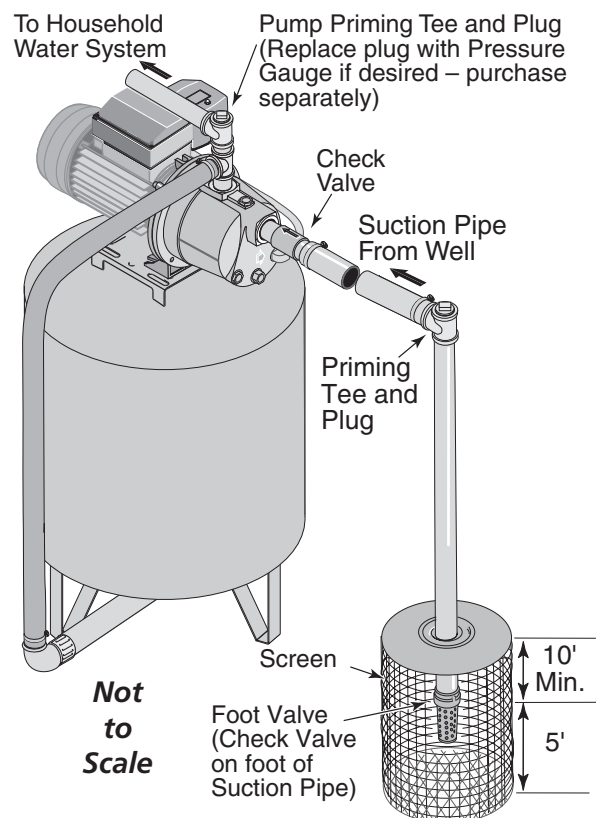

Figure 3 - Surface Water Installation
INSTALLATION FOR SURFACE WATER (FIGURE 3)
2. Assemble a foot valve and suction pipe (see Figure 3). Make sure that the foot valve works freely. Use teflon tape on threaded pipe joints. Protect the foot valve assembly from fish, trash, etc. by installing a screen around it (see Figure 3).
4. Install a priming tee, priming plug, and suction pipe to the pump (see Figure 3). Support the pipe so that there are no dips or sags in the pipe, so it doesn't strain the pump body, and so that it slopes slightly upward from the well to the pump (high spots can cause air pockets which can air lock the pump). Seal the suction pipe joints with teflon tape. Joints must be air-tight and water-tight. ***If the suction pipe can suck air, the pump cannot pull water from the well.***